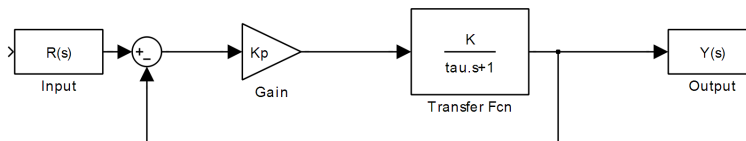

Figure 1: Speed Control
Using proportional error feedback with gain K_p for the open loop system (1) (see Figure 1) results in the closed loop transfer function: